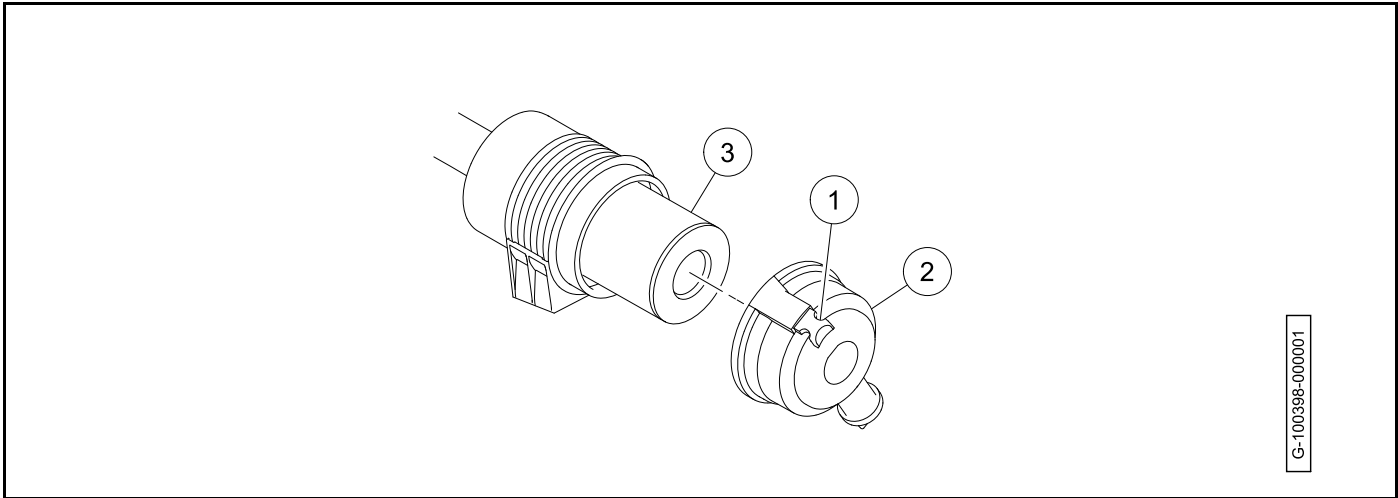

Figure 10-3 Air Filter
1. Release the latch (1) (**Figure 10-3, Page 10-10**).
2. Remove the air cleaner cover (2).
3. Remove the air filter (3).
2. Install the air filter (3) (**Figure 10-3, Page 10-10**).
3. Install the air cleaner cover (2).
4. Engage the latch (1).